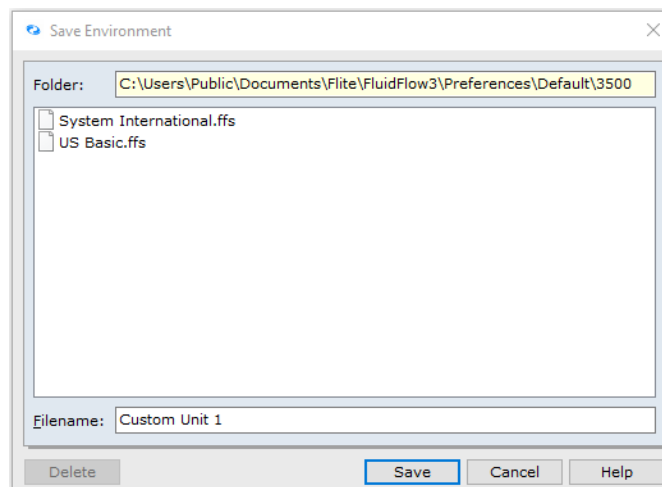

Figure 24: Modified Save Environment Dialogue Box.
26. On the *Filename:* section type **Custom Unit 1** and click Save (Figure 24).